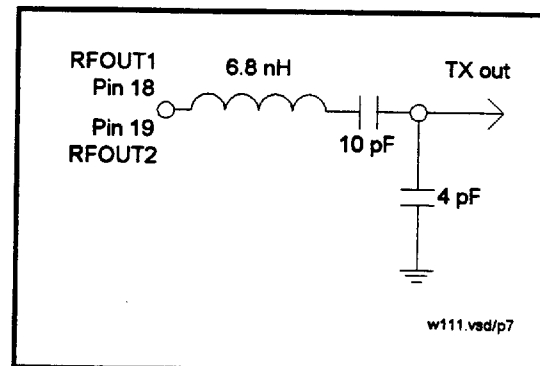

Figure 3. Typical PA Output Matching
5. The Power Amplifier output port requires a matching network for maximum power transfer (refer to Figure 3 below for an example of a matching circuit). However, the values are layout-sensitive. A longer trace will require a smaller capacitor.